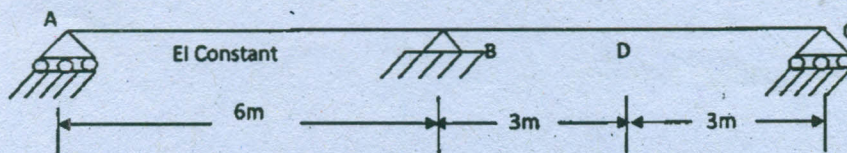

Fig. 3
- (b) Determine the influence line for the shear force at D, the middle point of span BC, of a continuous beam shown in Fig. 3. Compute the ordinates at 1 m interval.